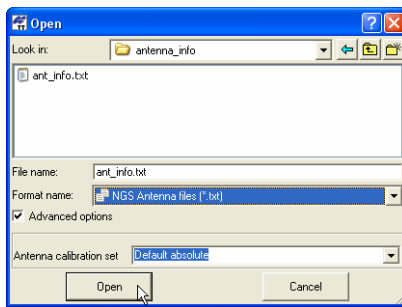

Figure 11-50. Select the Antenna Calibration File from the Antenna Calibration Set
3. Click **Open** to add the new calibration set to the Topcon Tools (Figure 11-50).